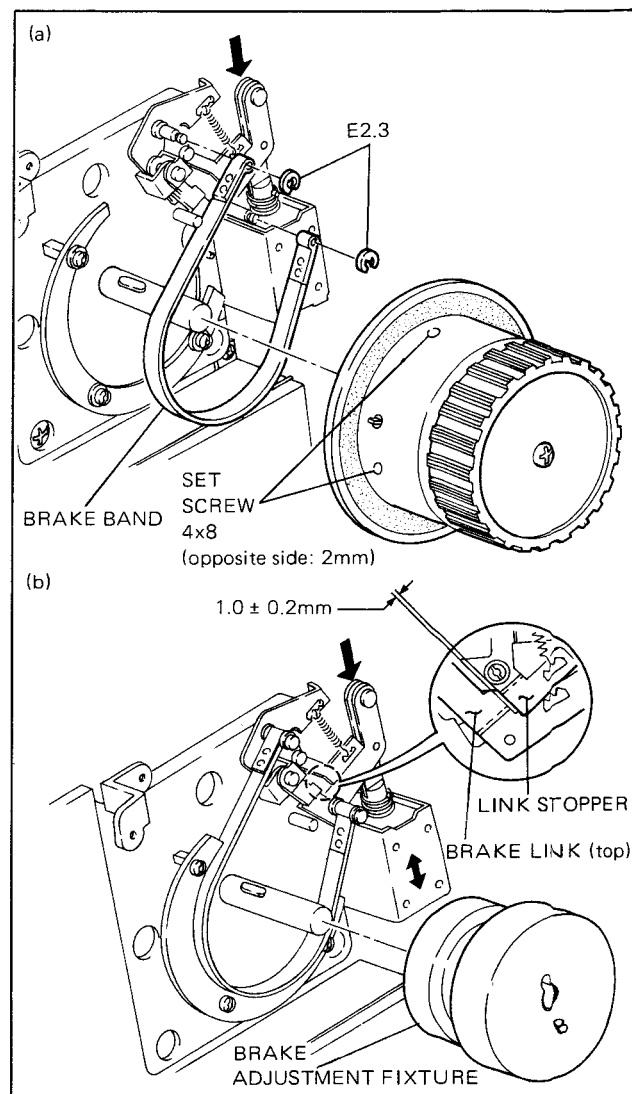

Fig. 3-35. Brake Band Replacement
1. Loosen the two set screws shown in Fig. 3-35. While attracting the solenoid plunger, remove the reel table. Clean the cylindrical part at the lower part of the reel table, which has been in contact with the brake band.
3. Install the new brake band in the position shown in Fig. 3-35 (a), and fasten it with the two E rings (E2.3).
4. While pressing the plunger, place the brake adjustment fixture ("B" mark faces the front) onto the reel motor shaft as shown in Fig. 3-35 (b).